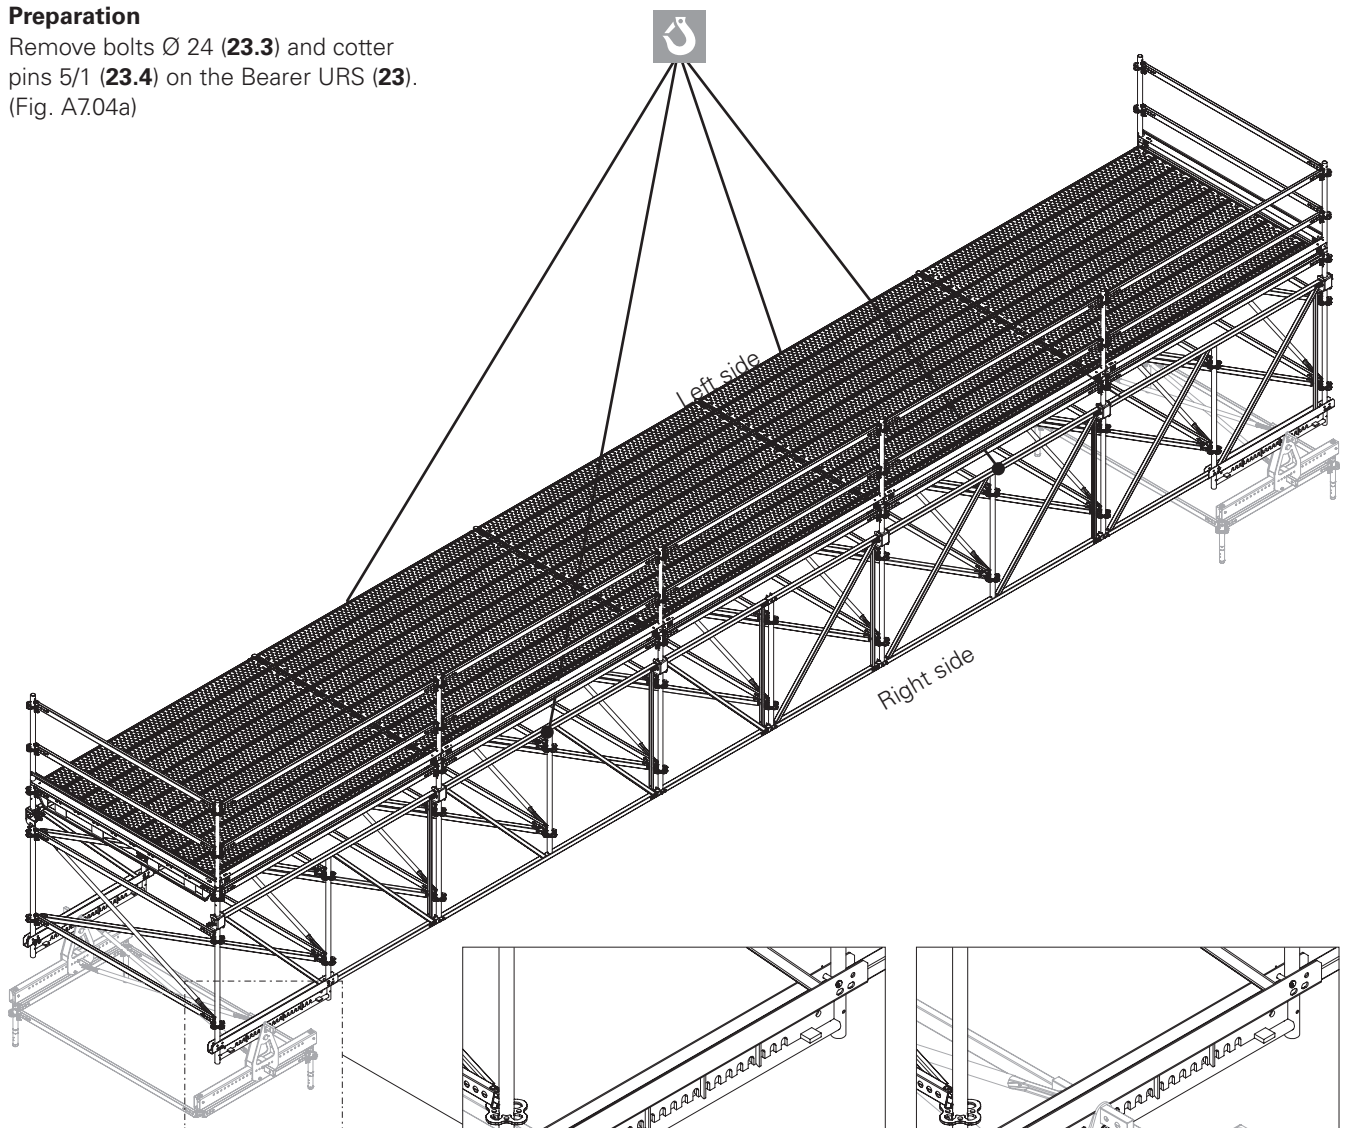

Fig. A7.04
- The bearer and girder package are now securely connected. (Fig. A7.04 + A7.04b)